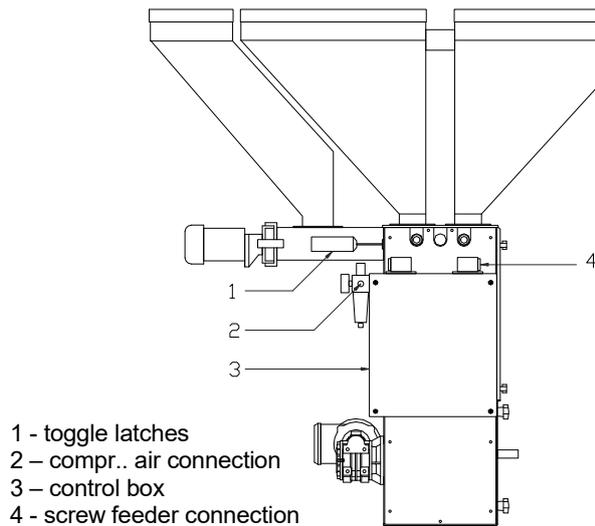

Figure 2.2 Sideview GRAVIMIX
- clean and dry compressed air supply with a constant pressure; **minimum** 6 bar, 1/4" BSP connection Figure 2.2